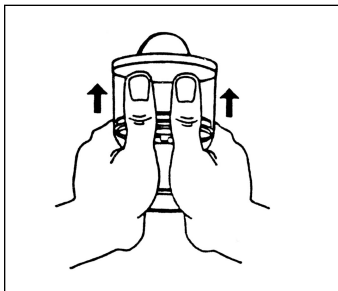

Figure 3
- b) With both thumbs placed side by side on the sample reservoir, press upward (Figure 3).